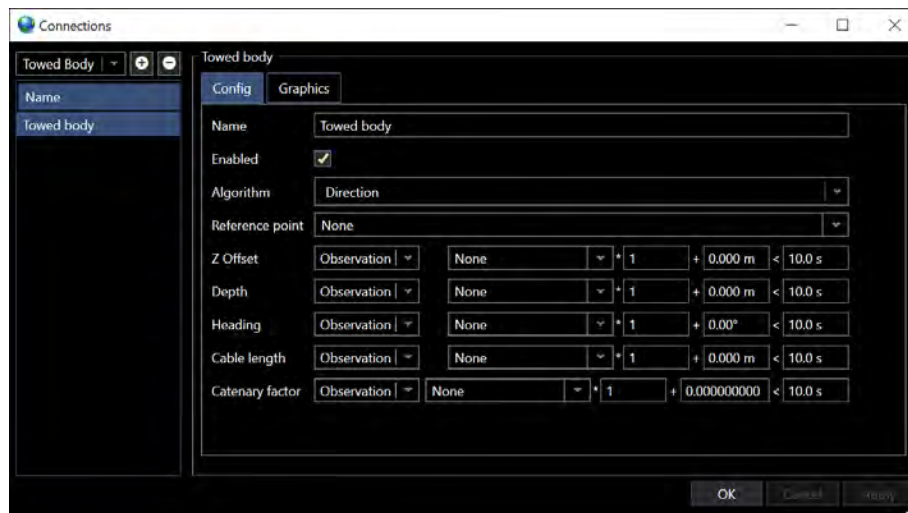

FIGURE 15-17 CONFIGURE TOWED BODY CONNECTION DIALOG
- a. **Config Tab** (see Figure 15-17)